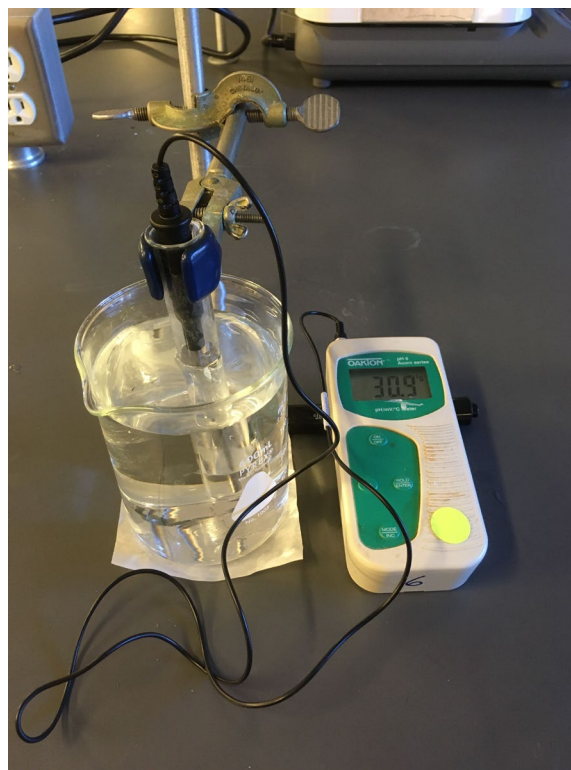

Figure 6. Experimental set-up for gradual cooling of the lauric and lauric-benzoic acids
In this experiment, we will employ lauric acid², shown in **Figure 6**, as the solvent. You will first determine the freezing point (FP) of pure solvent experimentally. Second, a measured amount of benzoic acid (**Figure 6**) will be added to the known mass of lauric acid. The freezing point of the resulting solution will be experimentally determined. The freezing point depression of the solution, ΔT_f , is simply the difference between these two temperatures.
Figure 6. Structures of lauric acid, $\text{CH}_3(\text{CH}_2)_{10}\text{COOH}$, and benzoic acid, $\text{C}_6\text{H}_5\text{COOH}$. All the H atoms are shown in the lauric acid. H atoms are present but not shown at positions 2 – 6 of the benzoic acid. (This simplified, less-cluttered depiction of structure is often used in organic chemistry.)
- Place the cooling bath near a ring-stand and set up a utility clamp as shown in **Figure 6**. When the lauric acid is completely melted, take the test tube out of the hot-water bath and place it in the cooling bath. (Put the watch glass on the bench.) Insert the temperature probe into the test tube, and stir the contents.